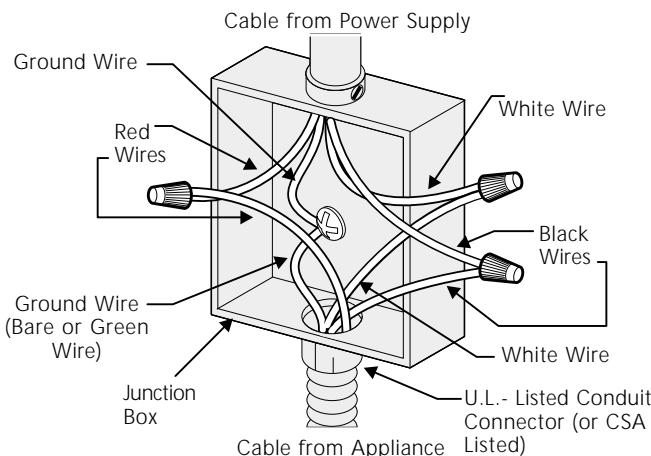

Figure 3 – 4-WIRE ELECTRICAL SYSTEM
- When connecting to a 4-wire electrical system, when installing in a mobile home, or when local codes DO NOT permit connecting the cabinet-grounding conductor to the neutral (white) junction box wire (see Figure 3)